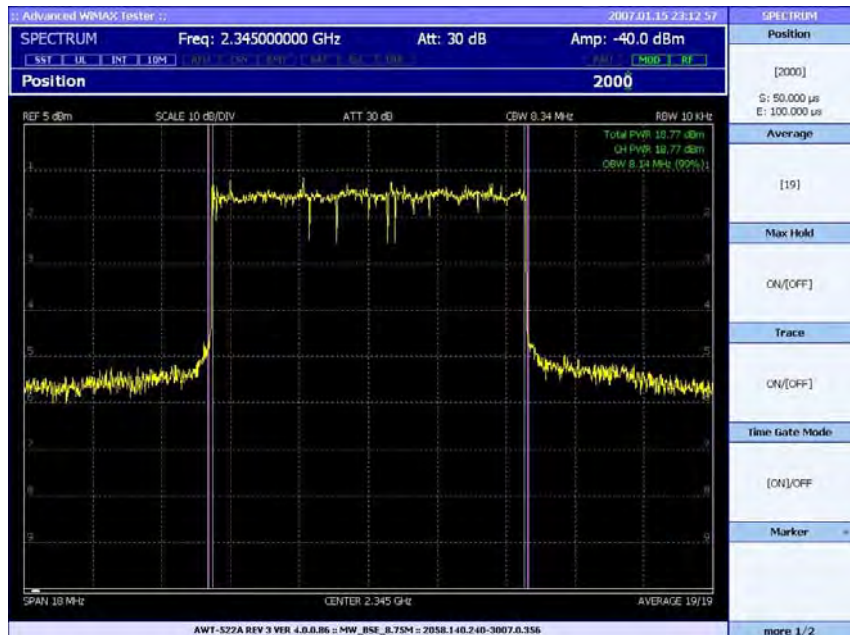

Figure 14 Uplink Spectrum Measurement
- 6 **Perform Spectrum Measurement:** During the Uplink Test, the E6651A can provide spectrum measurement for the uplink signal. To activate spectrum measurement, press **Measure** on the Front Panel, followed by **Spectrum** in the **Selection Menu**. The Measurement Window shown in **Figure 14** is displayed. Refer to **Chapter 4**, “Signal Analyzer Mode” for more information about analysis operations. Note that spectrum analysis must be performed after modulation analysis.